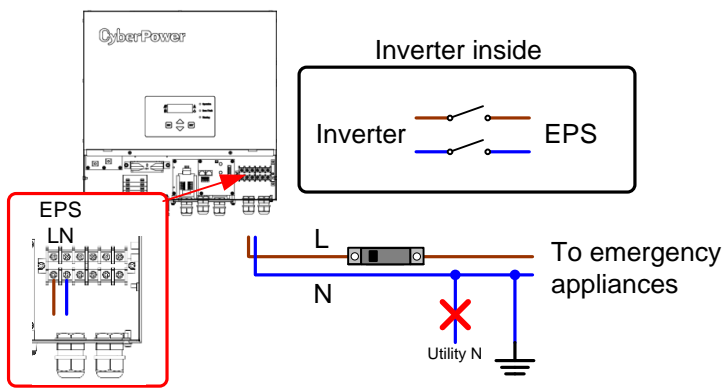

Fig. 3-8 EPS N connects to Ground
- Connect to Earth, refer to Fig. 3-8, connects to L and N terminals. EPS-N short to earth external by installer. Must set EPS N wiring as “To Earth”. AC bypass function would be disabled forcedly.